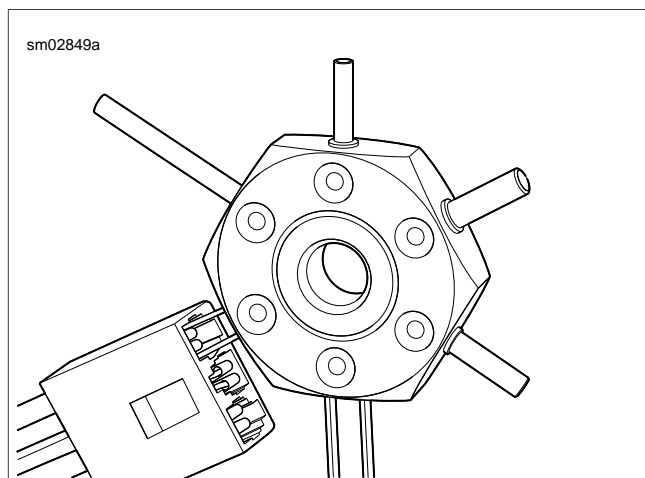
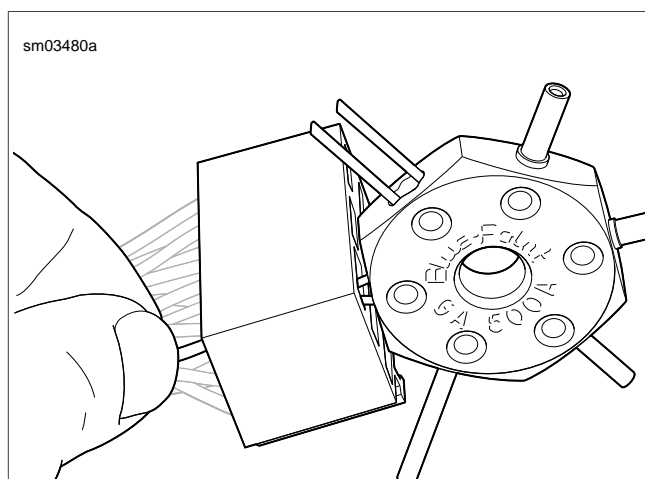

Figure A-1. Removing Autofuse Unsealed Terminal from Ignition Switch
Figure A-2. Removing Autofuse Unsealed Terminal from Fuse Block
1. See Figure A-1 or Figure A-2. Insert smallest pair of pins on the SNAP-ON TERMINAL PICK (Part No. GA500A) into chamber on mating end of socket housing to press tangs on each side of terminal simultaneously.